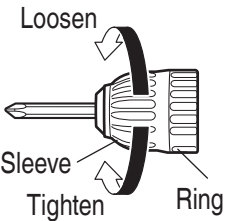

Fig. 6
- (1)
- After inserting a driver bit, etc. into the keyless drill chuck, firmly grasp the ring and tighten the sleeve by turning it toward the right (in the clockwise direction as viewed from the front). (See **Fig. 6**)
- (2)
- Firmly grasp the ring and loosen the sleeve by turning it toward the left (in the counter-clockwise direction as viewed from the front). (See **Fig. 6**)